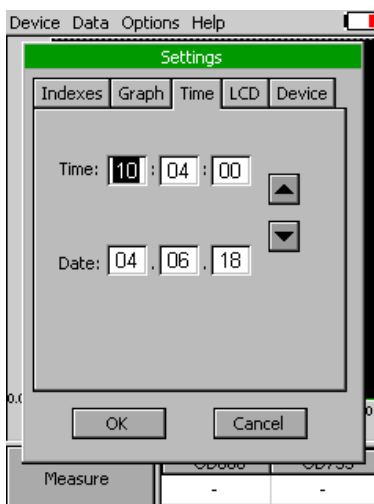

Fig. 9 Settings - Time.
- **Time** - Set the actual time and date (all data files are stored by time and date signature). To change time, touch on one of the values and adjust it using the arrows (Fig. 9).